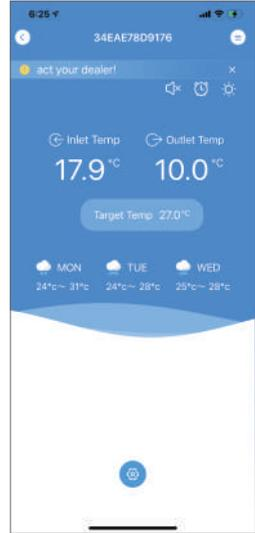

Fig.20 Device Main interface
10. Click the device directly jump to device main interface(Fig. 20).
11. Click the device directly jump to device main interface(Fig. 20).